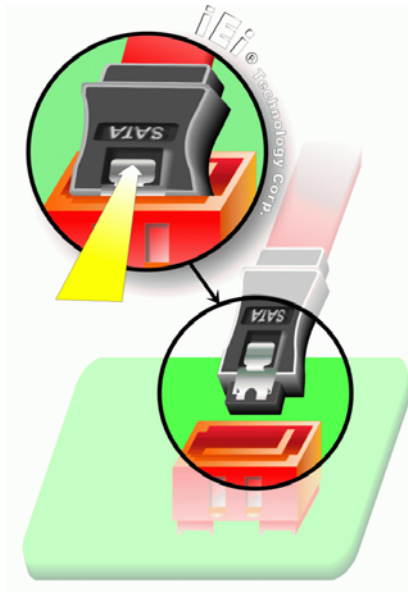

Figure 5-15: SATA Drive Cable Connection
- Step 2:** **Insert the cable connector.** Press the clip on the connector at the end of the SATA cable and insert the cable connector into the onboard SATA drive connector. See **Figure 5-15**.